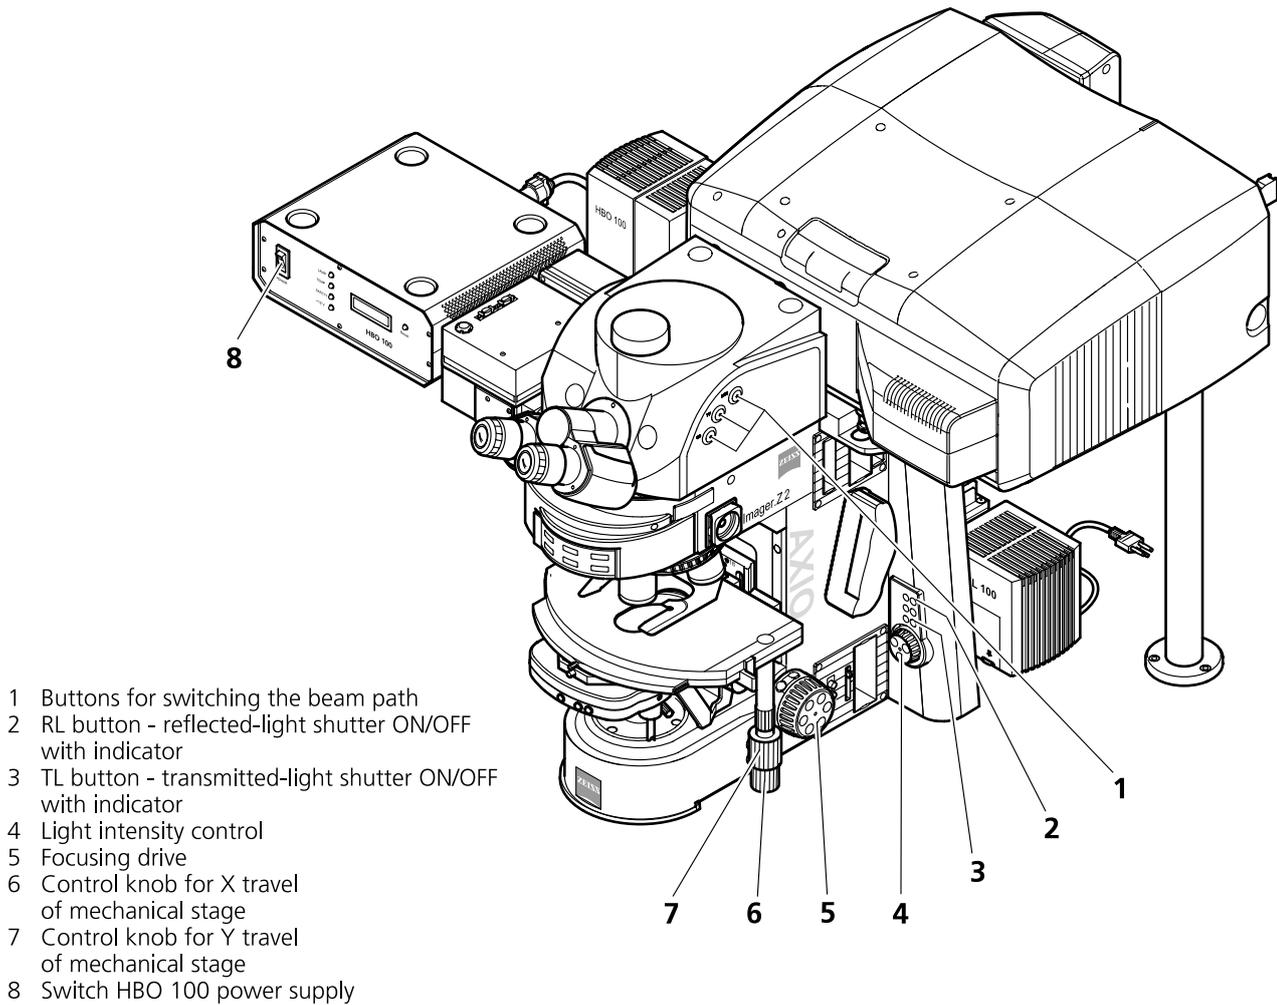

Fig. 5-5 **LSM 710 with Axio Imager.Z2**
(1) Microscope settings on Axio Imager for transmitted-light observation
- Pull out the push rod (Fig. 5-5/1) to switch the beam path of the tube in LSM position.
- Control the brightness of the halogen lamp with the potentiometer (Fig. 5-5/4) or the **Intensity %** slider in the **Ocular** panel.
- Use the focusing drive (Fig. 5-5/5) to focus the required object plane.
- Select specimen detail by moving the stage in X and Y using the XY stage fine motion control (Fig. 5-5/6 and 7).
(2) Microscope settings on Axio Imager for reflected-light observation (Epi-fluorescence)
- Turn on the HBO 100 W or X-Cite power supply with switch (Fig. 5-5/8)